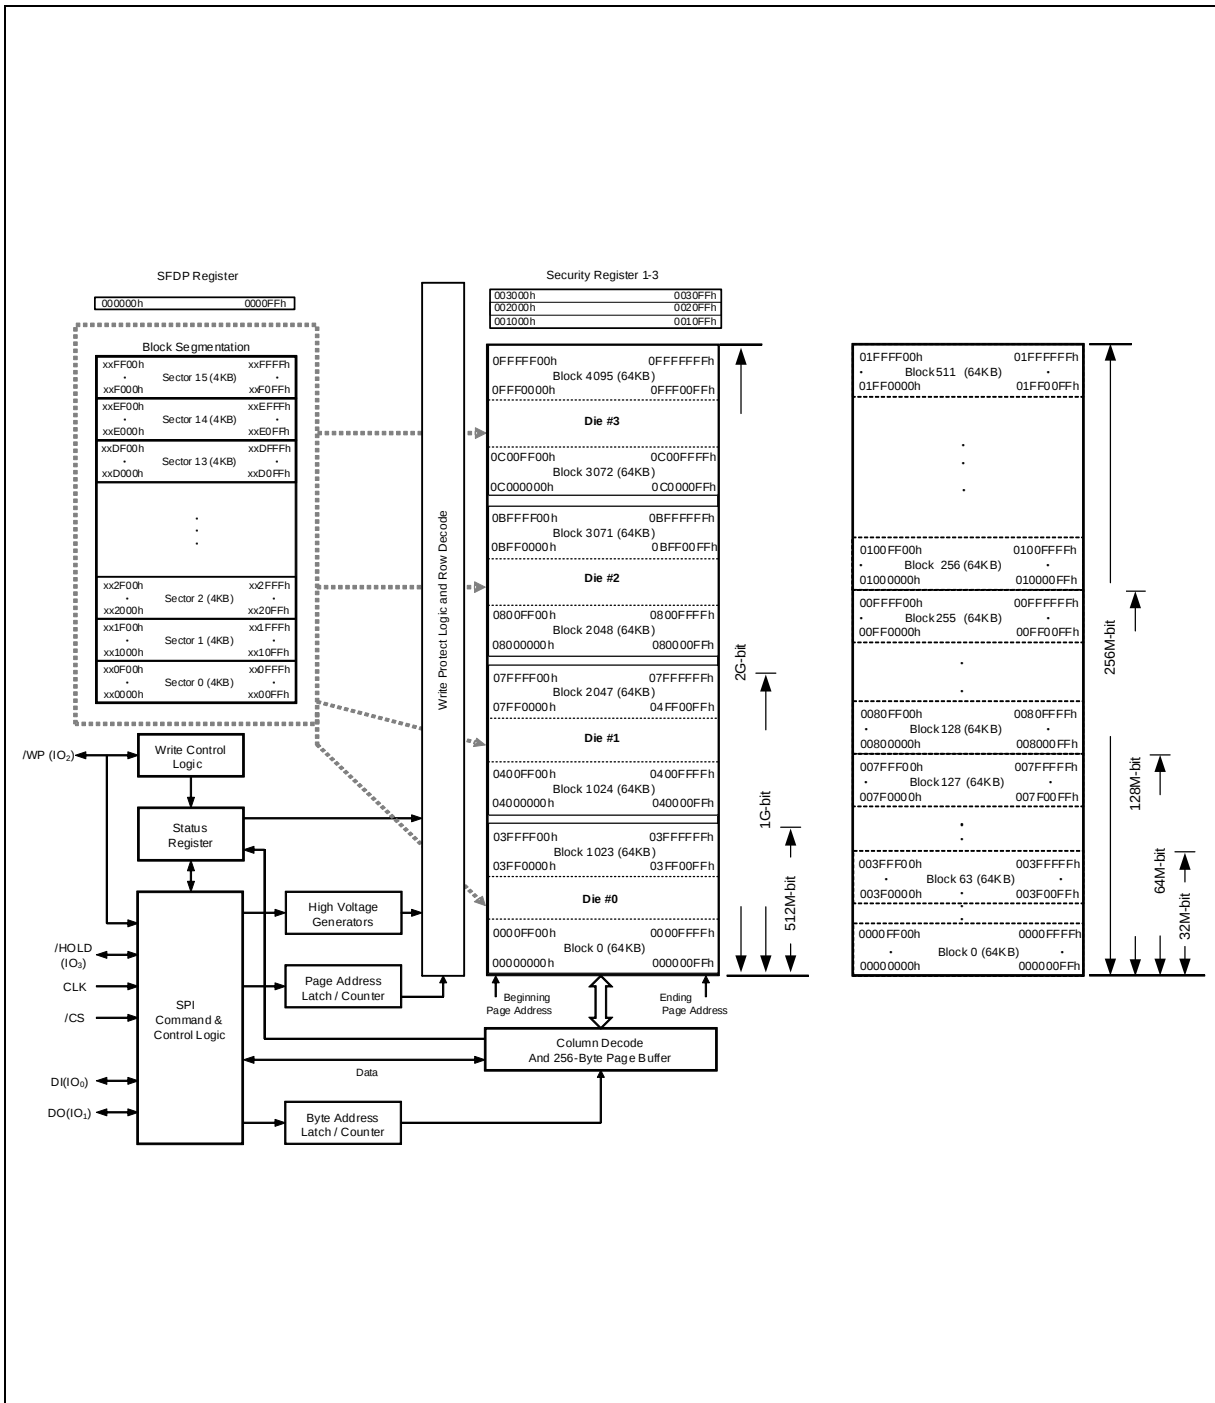

Figure 4 W25QxxRV Serial Flash Memory Block Diagram
The W25QxxRV supports Quad Peripheral Interface (QPI) operations only when the device is switched from Standard/Dual/Quad SPI mode to QPI mode using the “Enter QPI (38h)” instruction. The typical SPI protocol requires that the byte-long instruction code being shifted into the device only via DI pin in eight serial clocks. The QPI mode utilizes all four IO pins to input the instruction code, thus only two serial clocks are required. This can significantly reduce the SPI instruction overhead and improve system performance in an XIP environment. Standard/Dual/Quad SPI mode and QPI mode are exclusive. Only one mode can be active at any given time. “Enter QPI (38h)” and “Exit QPI (FFh)” instructions are used to switch between these two modes. Upon power-up or after a software reset using “Reset (99h)” instruction, the default state of the device is Standard/Dual/Quad SPI mode. To enable QPI mode, the non-volatile Quad Enable bit (QE) in Status Register-2 is required to be set. When using QPI instructions, the DI and DO pins become bidirectional IO0 and IO1, and the /WP and /HOLD pins become IO2 and IO3 respectively. See Figure 4 for the device operation modes.